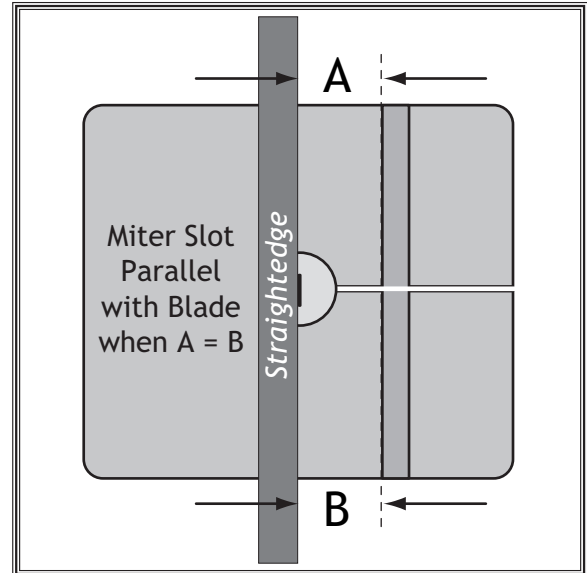

Figure 33. Checking if miter slot is parallel to blade.
5. Use a fine ruler to gauge the distance between the straightedge and the miter slot. The distance you measure should be the same at both the front and back ends of the miter slot, as indicated by positions "A" and "B" in Figure 33.